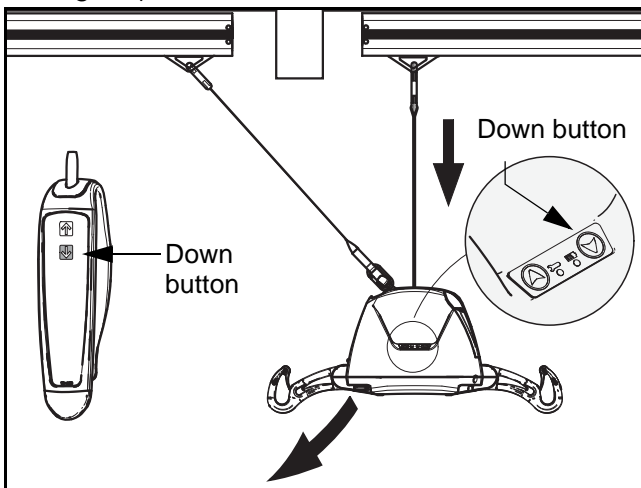

Fig. 20
- 3) Press the DOWN button on your hand control. This will pull slowly the unit and the patient towards your second point of transfer (see Fig. 20).